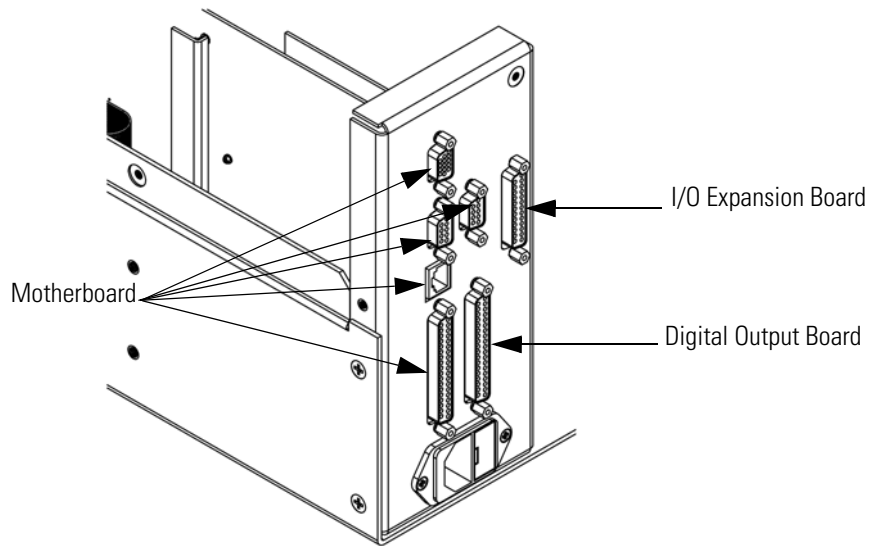

Figure 7-9. Rear Panel Board Connectors
3. Remove the two standoffs holding the I/O expansion board connector to the rear panel (Figure 7-9).
4. Using the nut driver, remove the two standoffs securing the board to the rear panel (Figure 7-9).